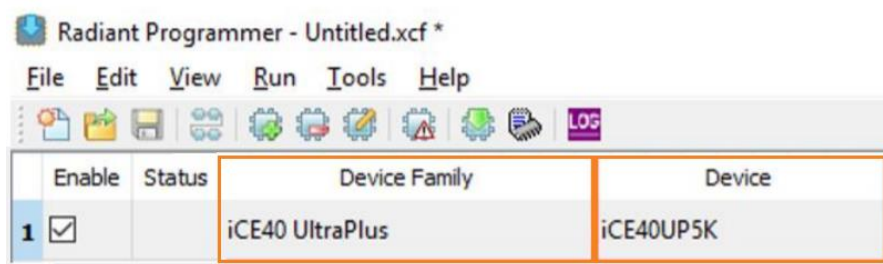

Figure 8.8. Lattice Radiant Programmer: Device Family and Device Setting
- Set **Device Family** to **iCE40 UltraPlus** and **Device** to **iCE40UP5K**, as shown in Figure 8.8.